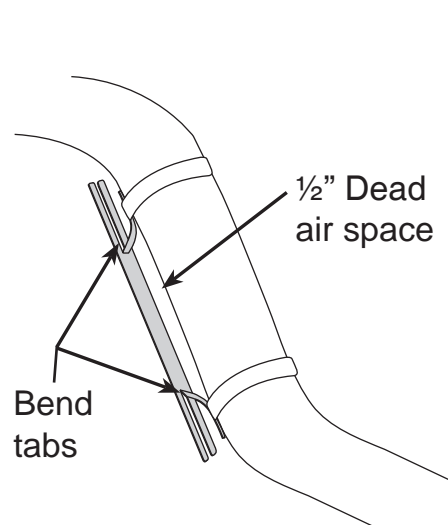

fig. 14a
2. Attach the heat shield to the exhaust pipe using the clamps. Bend the heat shield for maximum clearance to the air spring (fig. 14a).